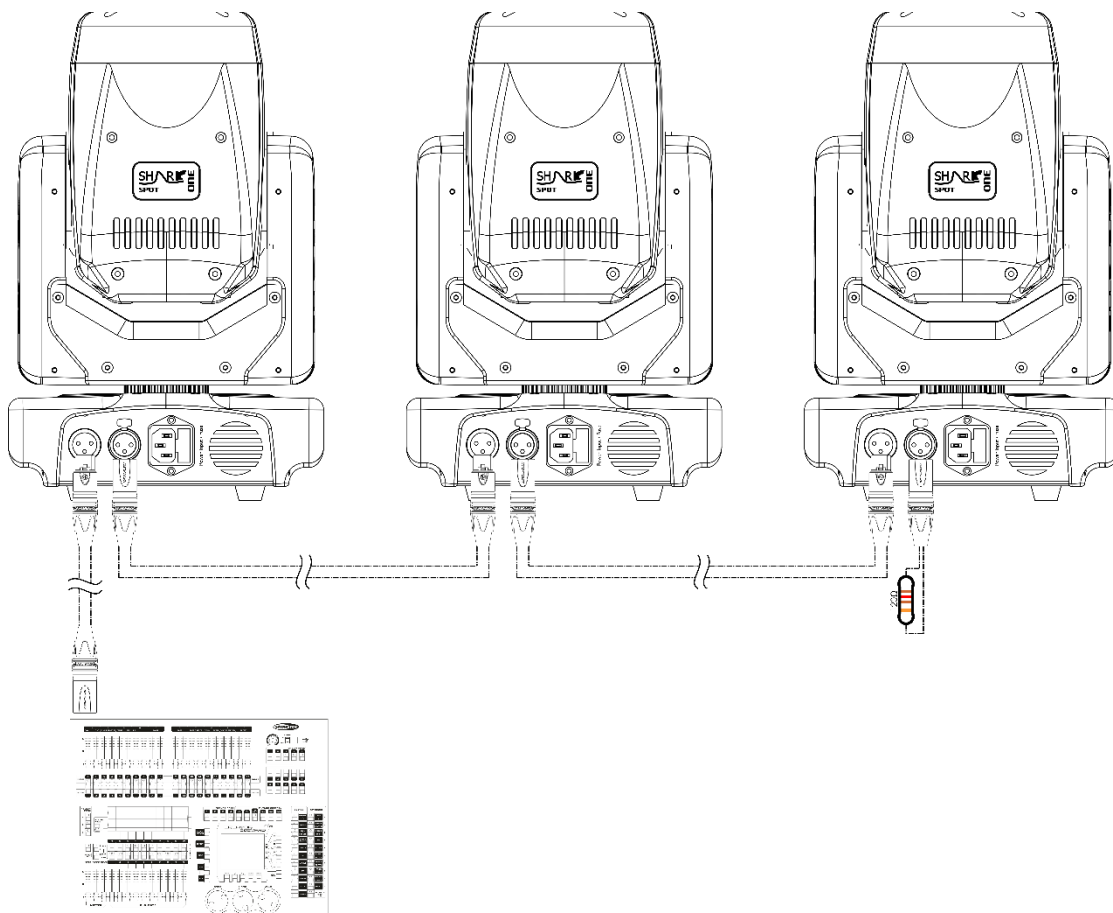

Fig. 05
- 04) Link the units as shown in fig. 05. Connect the first unit's DMX "out" socket with the second unit's "in" socket, using a DMX-signal cable. Repeat this process to link the second, third, and fourth units.